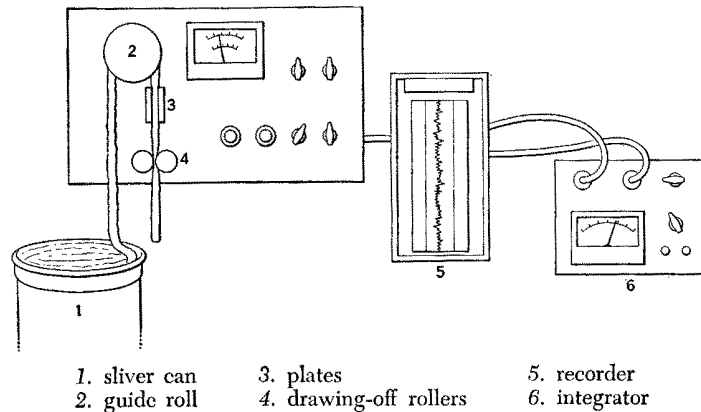

FIG. 32. USTER EVENNESS TESTER
The Uster evenness tester, which can be used for testing the evenness of sliver, roving, and yarn, was developed in Switzerland. It is sold in the United States by the Uster Corporation, Charlotte, North Carolina. The evenness tester, shown in Fig. 32 as set up for testing card sliver, is an electronic measuring instrument. While the instrument is very complex, it is not much harder to use than to tune in a station on a radio or TV set.
93. The chart shown in Fig. 32 (*b*) was run at 1 in. per min, while the sliver ran at 25 yd per min. You have, therefore, a scale of 1:900. The peaks, at the point of the chart shown, are 10 in. apart. That is, the maximum variations stretch over  $10 \times 900 = 9,000$  in. Now suppose you perform the calculations for each roll and cylinder on the card. Even allowing for the drafts, you don't get as much as 9,000 in. But don't give up. Go on to the lap, which is on the lap roll. The lap has a diameter of 24 in. The card has a draft of 120. Then,  $24 \times 3.14 = 75.4$ , and  $75.4 \times 120 = 9,050$ , which is quite close to the 9,000 you were looking for. Like the Canadian Mounted Police, the scientific test methods get the culprit every time. In this case the carder can relax and let the picker operator find out why the lap was uneven.